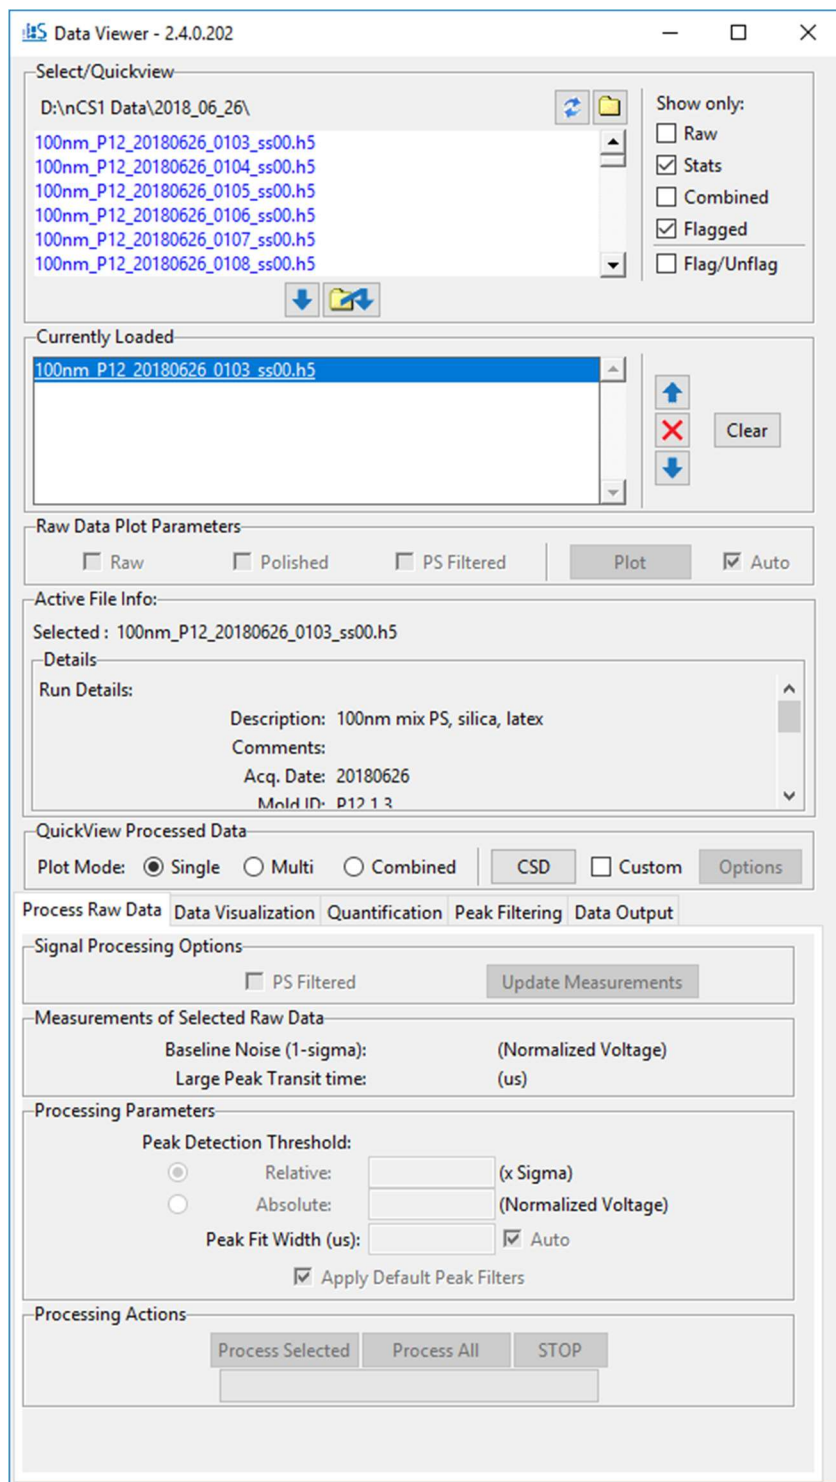

Figure 14. Overview of the Spectradyme Viewer software user interface.
- In the Select/Quickview frame (Figure 14), use the folder icon to the right of the current path to navigate to the location of the raw data.